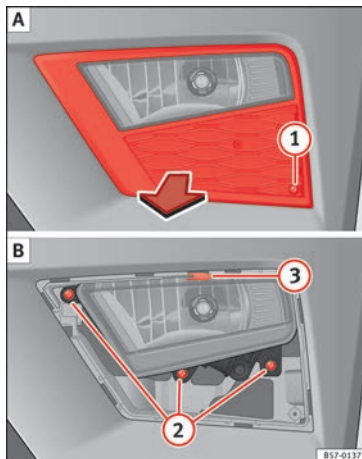
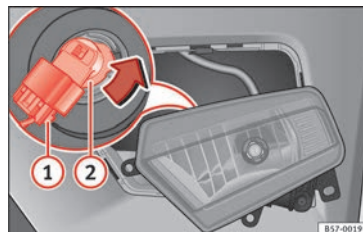

Fig. 109 Fog light: extracting the grille.
Fig. 110 Fog light: remove the bulb holder
1. Remove the screw » **Fig. 109 ① A** from the fog light grille using a screwdriver and extract the grille.
2. Remove the 3 screws » **Fig. 109 ② B**.
3. Remove the metal clip situated on the upper part of the fog light by pulling away from the vehicle **③ B** and extract the fog light.
4. Remove connector » **Fig. 110 ①** from the bulb.
5. Turn the bulb holder » **Fig. 110 ②** anticlockwise and pull.